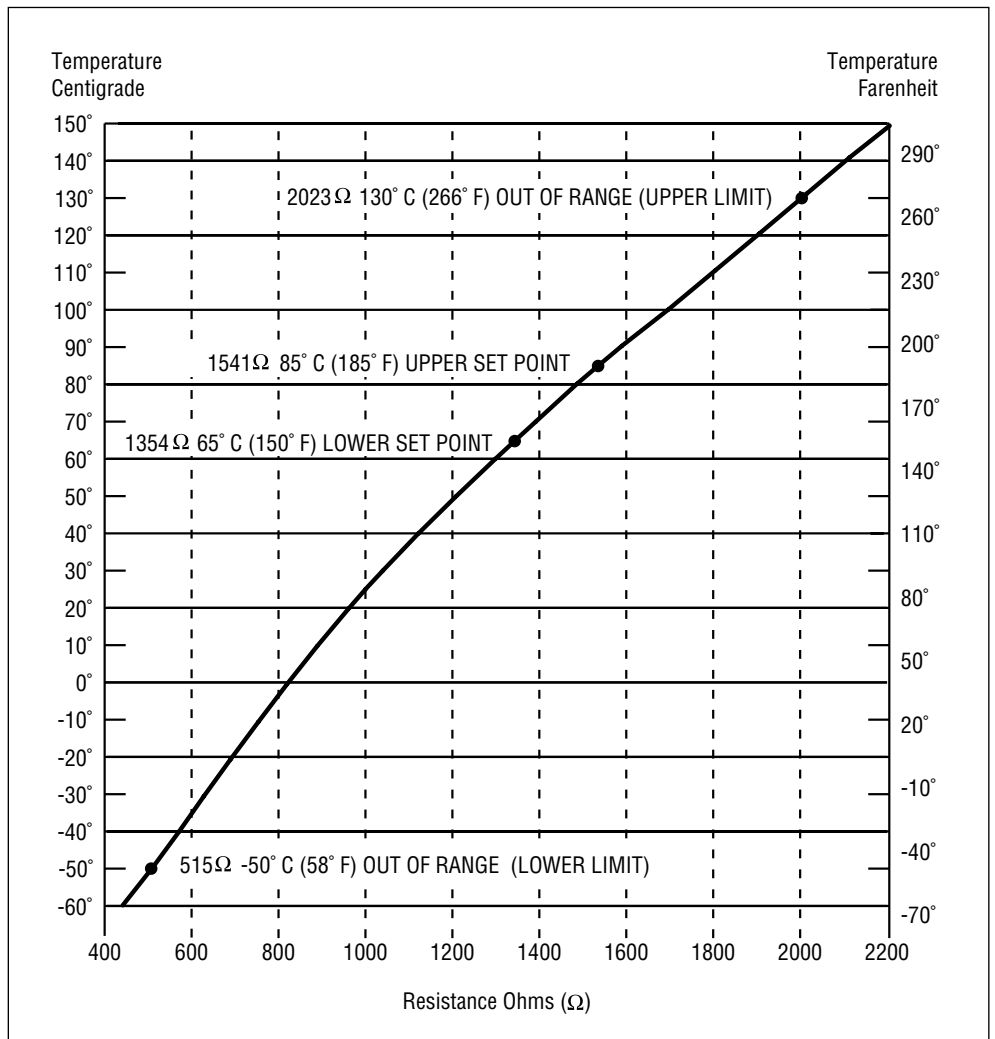

Figure 4-4 Coolant Temperature Sensor Graph
- Measure the sensor resistance versus temperature. Refer to graph. (See figure 4-4)